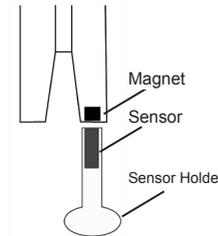

Fig 6
Refer to the Overview Notes on page 3 before starting installation. It is not possible to set out a single installation method for horizontal windlasses. The sensor may be fitted inside the windlass or you may need a sensor holder (Part #9070). See Fig 6 below. Often the sensor and magnet can only be fitted by the windlass manufacturer.
**Sensor Position:** The AutoAnchor sensor may be fitted using a sensor holder fixed to the deck to sit under the chainwheel (See Fig 6). The AutoAnchor sensor holder (#9070) is not included in the standard kit. Check with your supplier if you need this. The AA black sensor and the reed switch sensor must be fitted directly in line with the magnet in the chainwheel. The AA grey sensor may be fitted up to 20mm out of alignment. The gap between the sensor and magnet must be as per the table below.